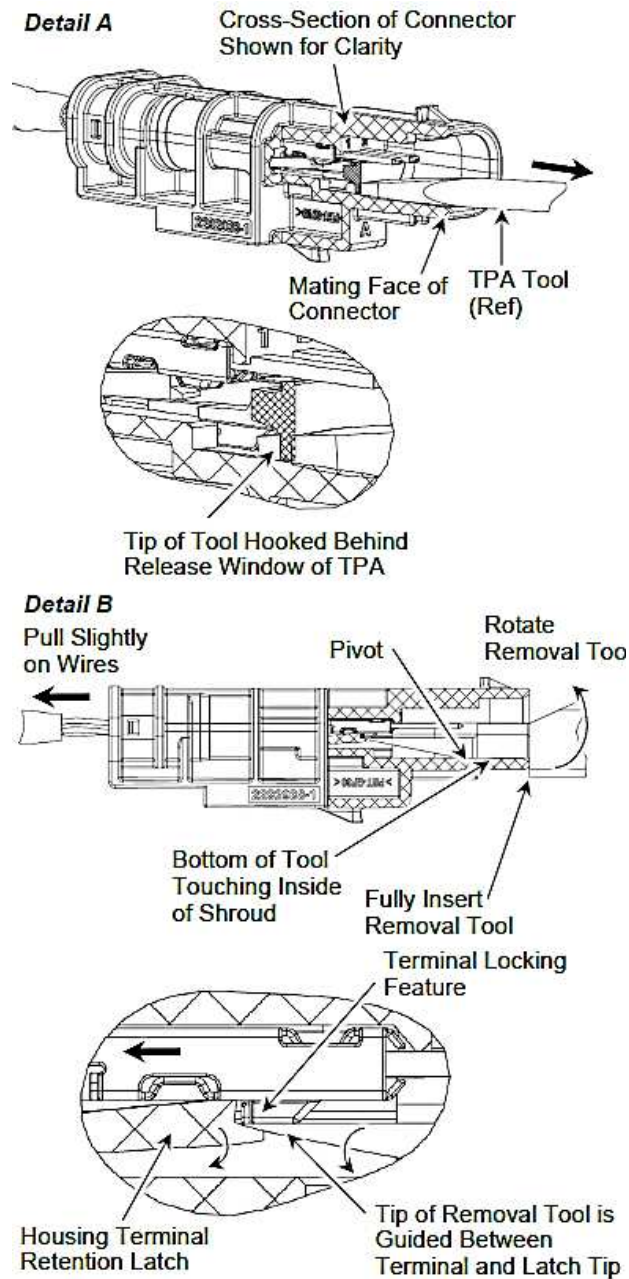

Figure 17
- i. Insert the tip of TE Removal Tool 776441-1 (or similar hook tool) into the mating face of the connector and hook it behind the release window of the TPA. See Figure 17, Detail A. Then, pull the TPA straight out of the connector. Care must be taken to retain the TPA and observe the orientation of the TPA for re-insertion.
- a. Insert the tip of TE Removal Tool 2844610-1 into the mating face of the connector. Align the bottom surface of the tool with the inside of the shroud. The tool will bottom against the front face of the connector when fully inserted. When the removal tool is properly located, the sharp tip will be between the terminal locking feature and housing latch. See Figure 17, Detail A.
- b. When the removal tool is properly located, rotate the tool in the direction shown to gently pry the housing locking latch away from the terminal locking features (this will release the terminal). See Figure 17, Detail B.